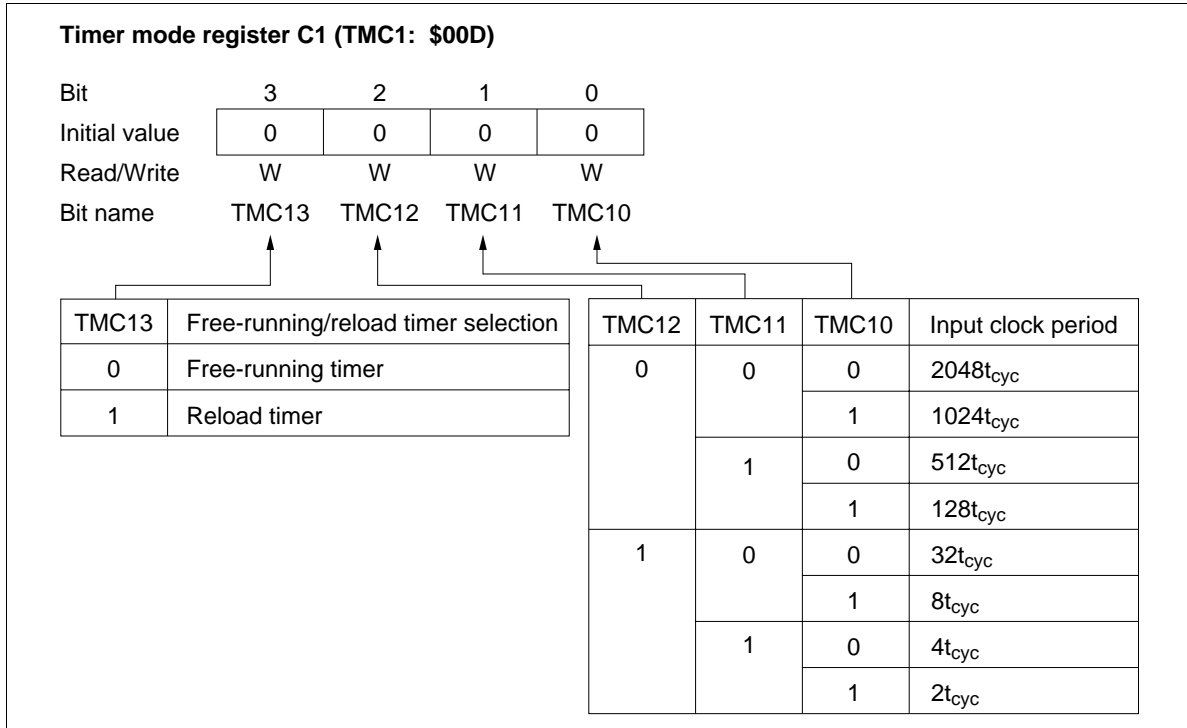

Figure 37 Timer Mode Register C1 (TMC1)
- Timer mode register C1 (TMC1: \$00D): Four-bit write-only register that selects the free-running/reload timer function, input clock source, and the prescaler division ratio as shown in figure 37. It is reset to \$0 by MCU reset.